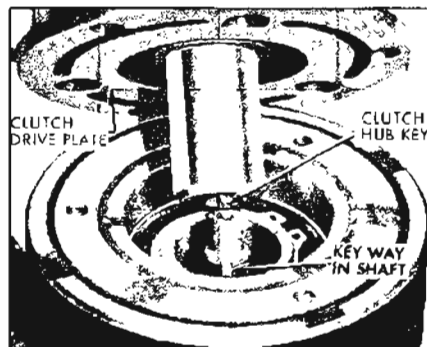

Figure 11-101—Positioning Clutch Drive Plate on Shaft
1. Insert clutch hub key into hub of clutch drive plate so it projects approximately  $3/16''$  out of end of keyway. See Figure 11-101.